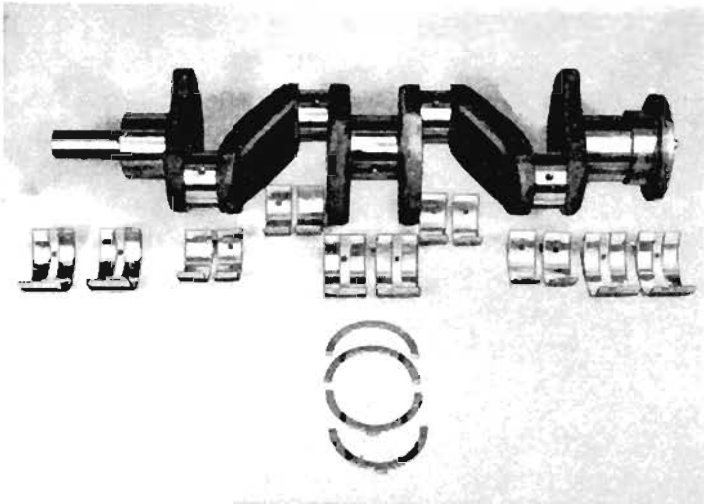

Fig. 8 Crankshaft, Bearings and Thrust Washers.
- (f) **The Crankshaft** (Fig. 8) is forged from molybdenum manganese steel, being provided with balance weights which are an integral part of the crankshaft throws, adjacent to the three main bearings. This shaft is accommodated in three precision type white metal steel back bearings, which are housed in the cylinder block, being secured in position by bearing caps and two bolts and spring washers per journal. Crankshaft thrust is taken by steel white metal covered washers which are fitted in two halves on either side of the centre main bearing housing, being located circumferentially by means of projections on the lower half of each pair of washers. In the case of extreme necessity and knowing that the crankshaft is in good condition, it is possible to change the main bearings without first removing the engine from the chassis. It is essential however that extreme care
4. CRANKSHAFT AND MAIN BEARINGS (Fig. 8)